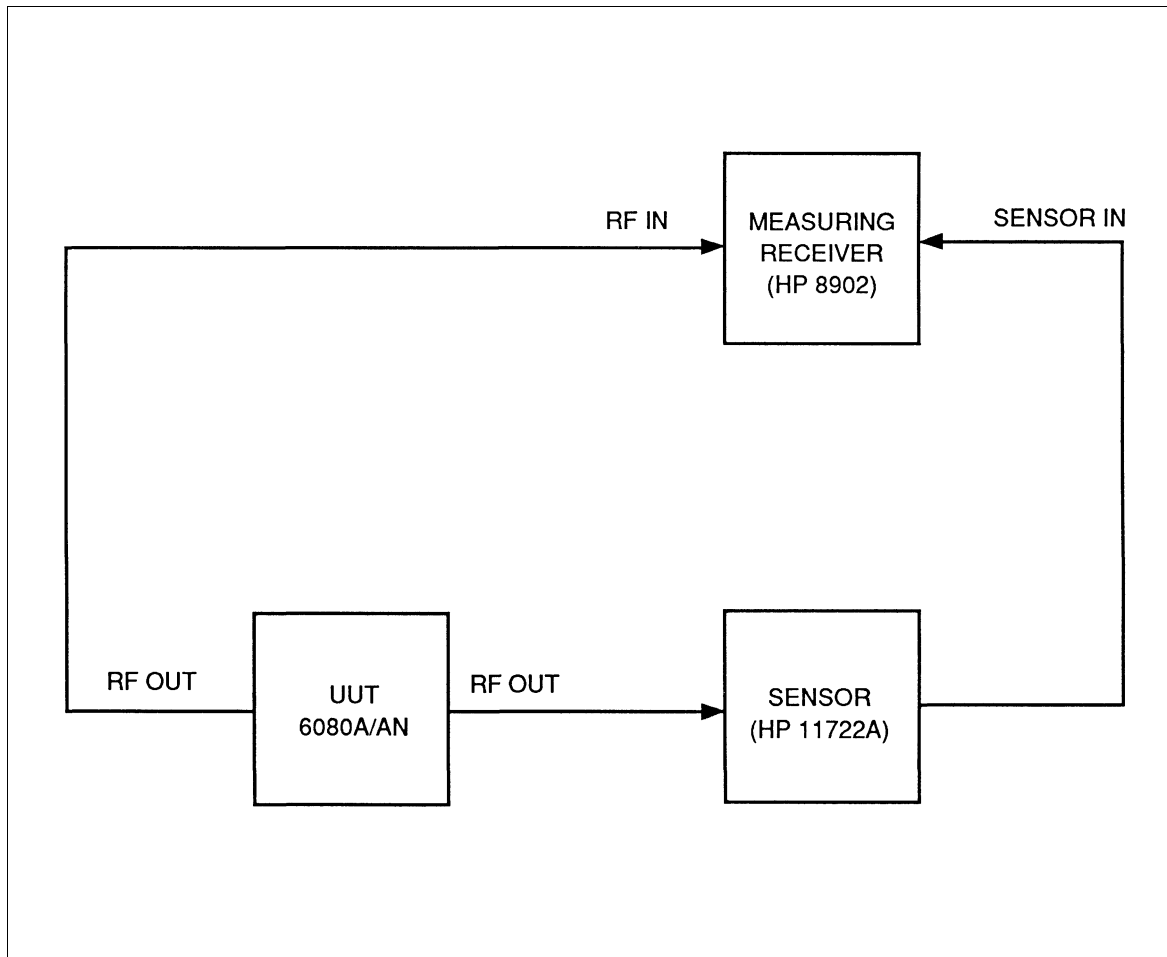

Figure 4-2. Alternate-Level Accuracy Test Equipment Setup
2. Connect all instruments as shown in Figure 4-2.